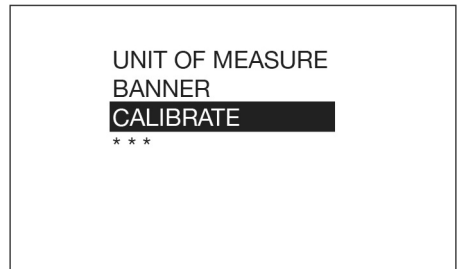
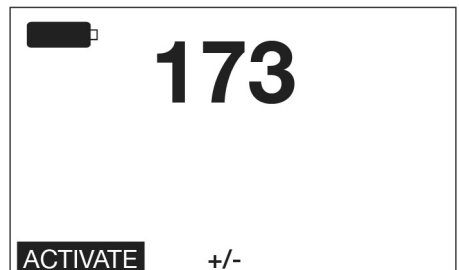

FIG. 13
FIG. 14
4. Select the CALIBRATE option (FIG. 13) to display the calibration K-Factor screen shown in FIG. 14.
5. The calibration K-Factor screen shown in FIG. 14 displays.